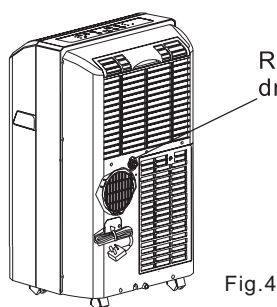

Fig.4
- Remove the drain plug from the back of the unit, attach a section of drain hose (included with this unit) to the hole. Place the open end of the hose directly over the drain area in your basement floor or in a water container (see Fig.4 & 5).
- Remove the rubber plug at the back of the unit and attach a hose to drain outlet. Place the open end of the hose directly over the drain area in your basement floor (See Fig.4 & 5).